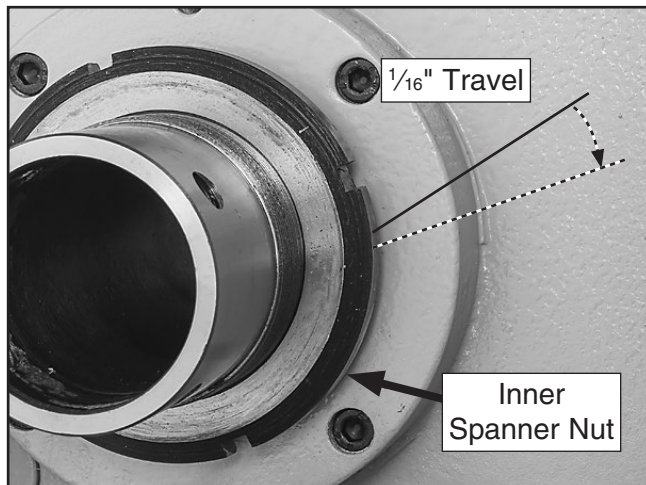

Figure 141. Final spanner nut rotation.
11. Tighten inner spanner nut an additional $\frac{1}{16}$ " along its circumference. See **Figure 141** for an example of this measurement.